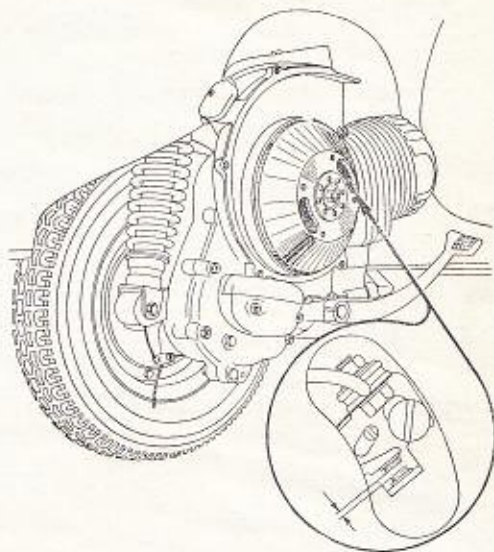

Fig. 17. Breaker points, gap 0.015".
5. Clean and adjust the contact breaker points of the flywheel magneto (see Fig. 17), to  $\cdot 4$  mm gap ( $\cdot 015''$ ).